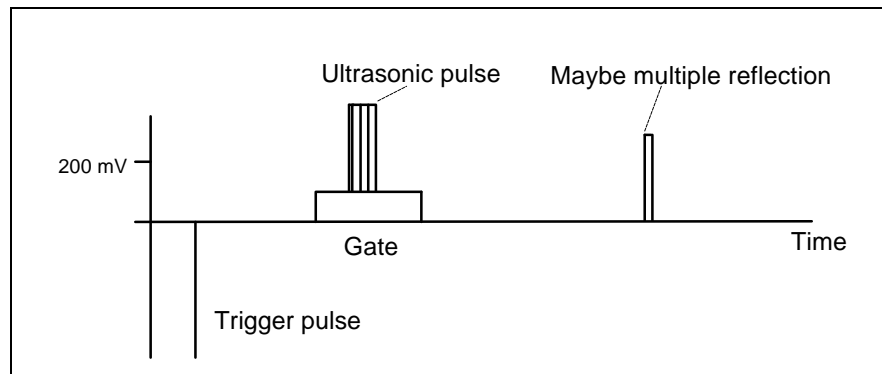

Figure 26: Signal at the test output with ultrasonic transmission on pipes
- If no echo pulses can be seen as illustrated in Figure 26 increase the transmission energy (P03) and/or the gain (P04) until ultrasonic signals are received continually.